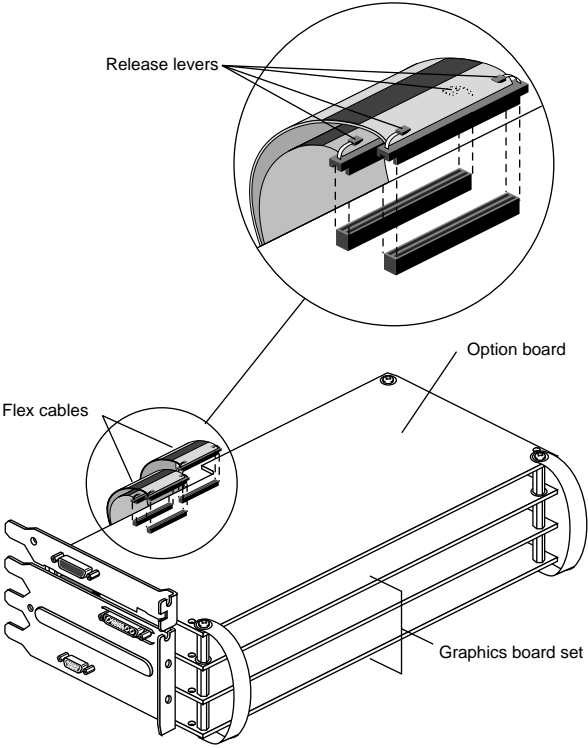

Figure 5-44 Reattaching the Flex Connectors
- 4. Insert the cable of the innermost cable beneath the release levers of the outermost flex cable connector before it is reconnected. See Figure 5-44.